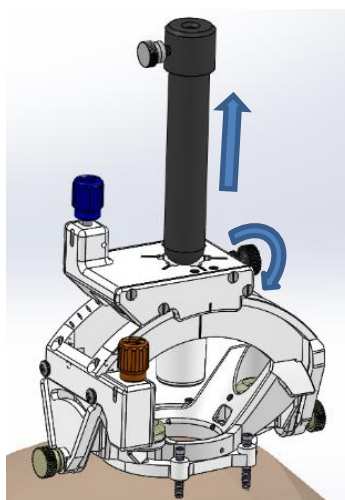

Figure 13: Removing the Optical Probe Adapter from the SMARTFrame Array Tower
9. Remove the SNS Probe Adapter from the Tower by loosening the Tower side thumb screw and pulling the Probe Adapter out of the Tower. **See Figure 13.**